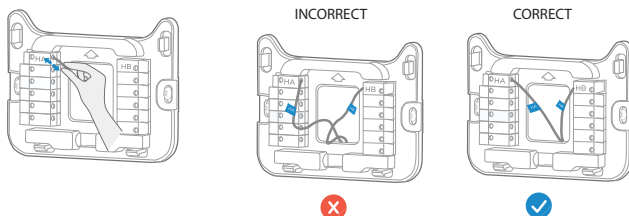

Fig. 5 Connect HA and HB Wires
- Pull the HA and HB wires through the center hole of the M-base. (See Fig. 5)